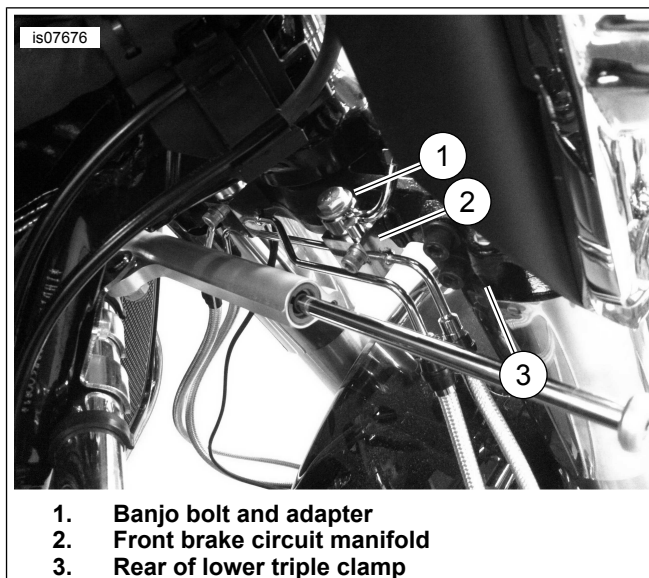

Figure 1. Front Circuit Manifold
4. See Figure 1. Remove the stock banjo fitting from the front circuit manifold. Save the banjo bolt for installation. Discard the sealing washers.